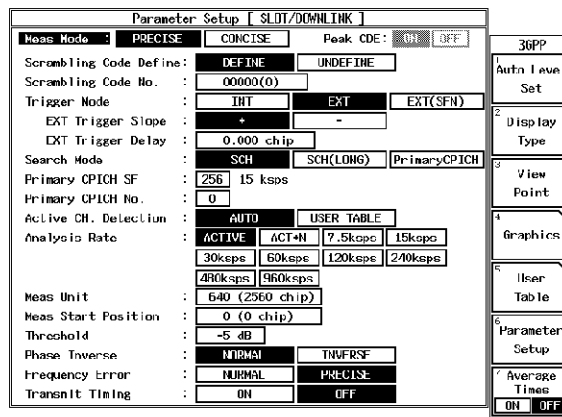

Figure 6-3 Setting of Measurement Parameters for Down Link (RF Input)
6. On the R3267 Series, set the measurement parameters as shown in Figure 6-3.